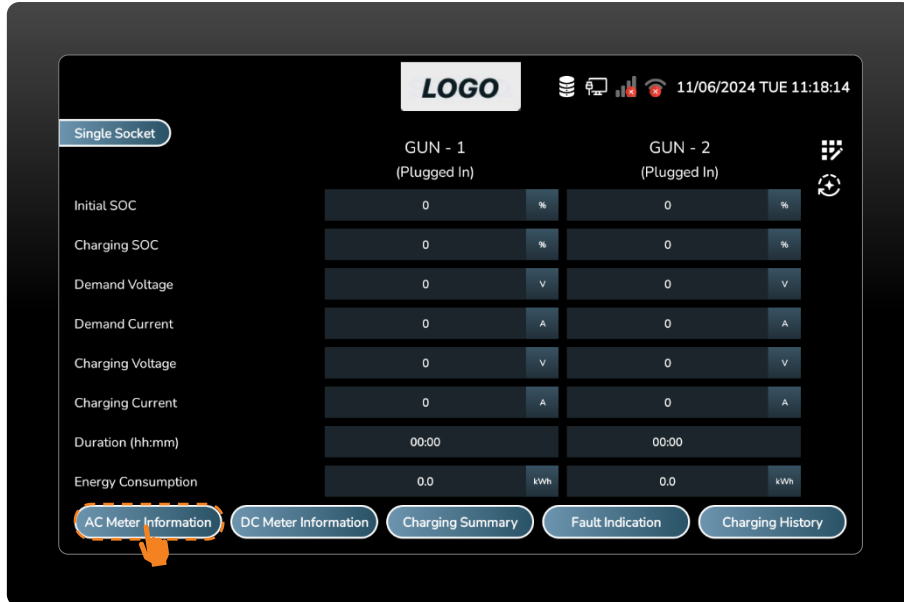

Figure 93 Press the AC Meter Information Screen.
- To get information about the AC meter, press the AC meter information button. (Figure 93)